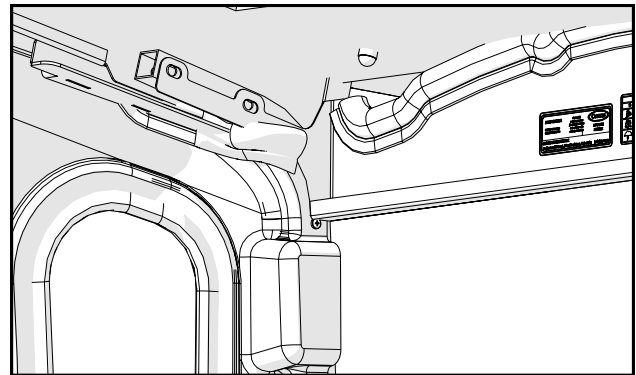
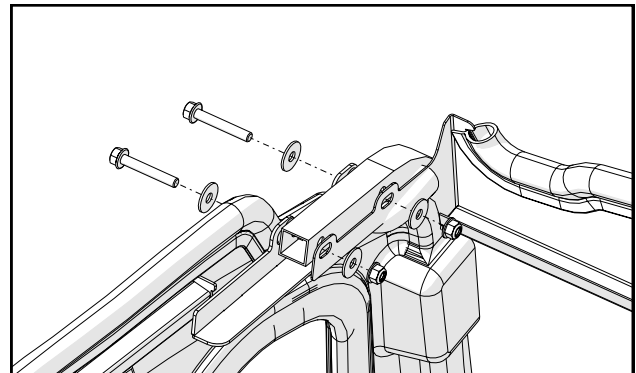

Fig. 3.7a (windshield header - left side)
Fig. 3.7b (install hardware - no roof shown for clarity)
**3.7** Per figure 3.7a, install windshield header on the inside surface of the factory roof mounting area. Install mounting hardware, per figure 3.7b. Leave bolts loose.
*Note: In figure 3.7b, factory roof removed for clarity.*